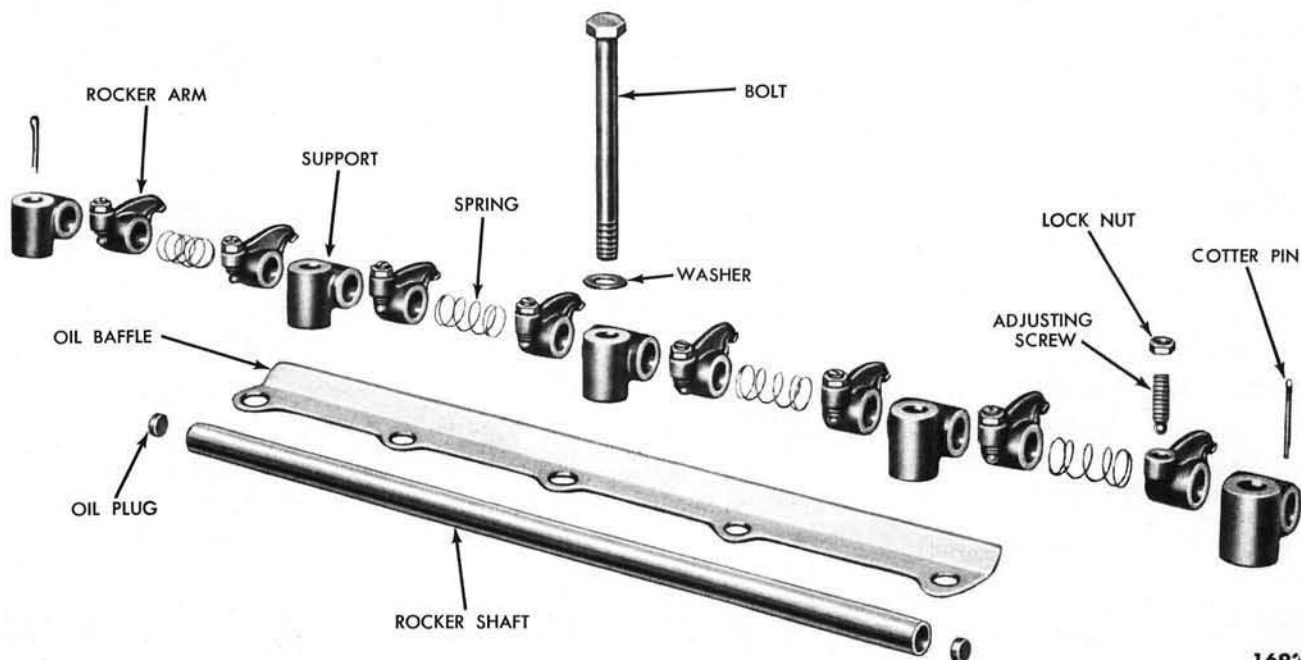

FIG. 23—Valve Rocker Arm Shaft Assembly
3. Install a cotter key in one end of the shaft, then install the rocker arms, supports, and springs in the order shown in Fig. 23. Complete the assembly by installing a cotter pin in the end of the shaft.